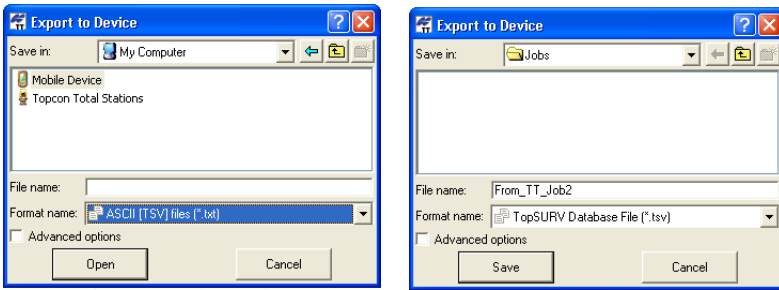

Figure 8-7. Export To Device Window
- Double-click the *Mobile Device* in the *Export to Device* window (Figure 8-7), select the folder in the TPS Controller where the exported file will be saved. Select the desired file format and enter the name of the creating file. Click **Save** in the *Export to Device Window*.